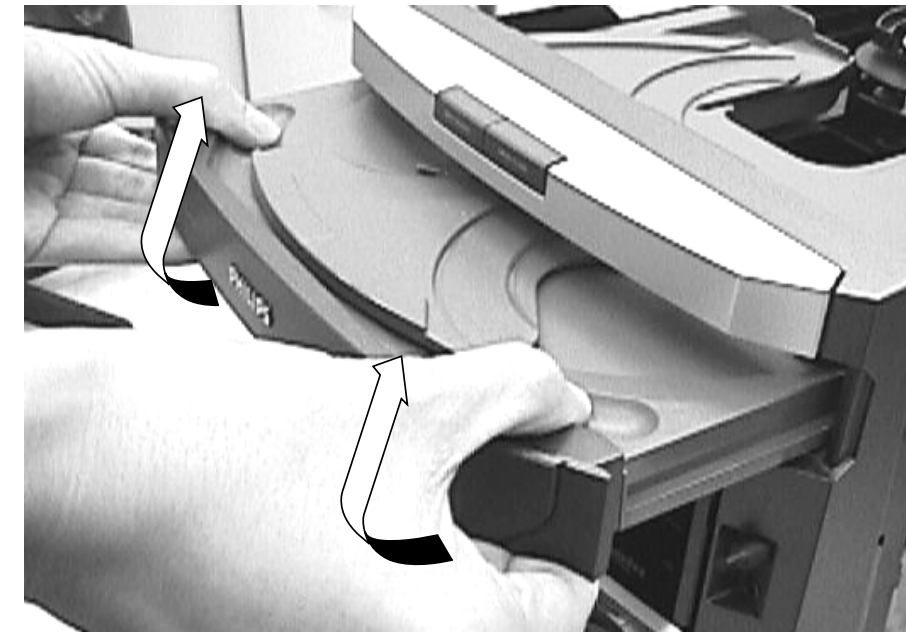
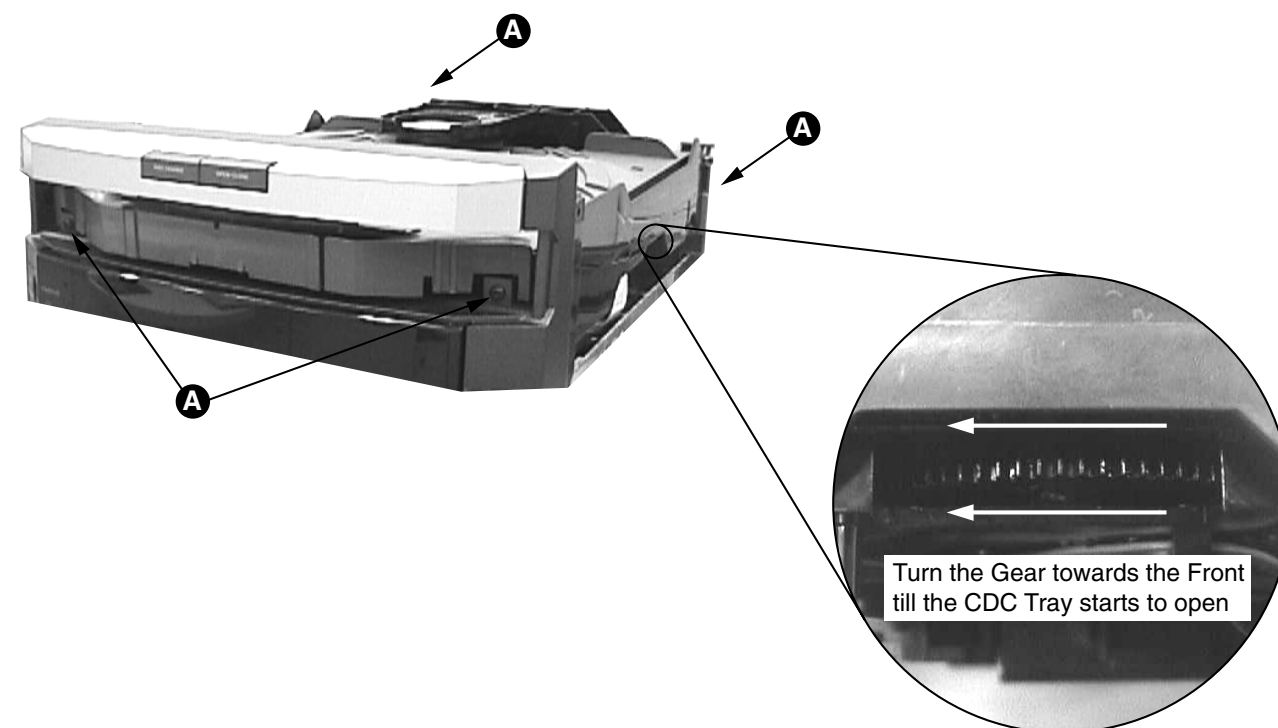

Figure 4
Figure 3
- 1) Loosen the 4 screws, slide Cover top (pos 255) towards the rear and remove it upwards.
- 2) Loosen 3 screws, slide the Panel right (pos 254) towards the rear and remove it outwards. Do likewise for the Panel left (pos 253).
- 3) Push the gear slowly towards the front as shown in figure 3
- 3 until the CDC tray starts to move out of the Front Cabinet (pos 101). The CDC tray is now disengaged and can be pulled out completely.
- 4) Remove the Cover Tray (pos 106) as shown in figure 4.
- 5) Loosen 4 screws A to remove the CDC Module (pos 1105) as shown in figure 3.